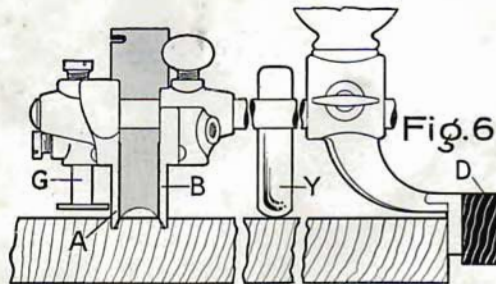

Fig. 6
Fig. 6—CENTER BEADING—Attach Cam Rest (Y) to either Arm between Sliding Section and Fence to steady Plane. Attach Fence as in Fig. 4, and Plane will cut bead five inches from edge of stock. Set as in Fig. 6 and it will cut bead eight inches from edge. Gauge (G) is used as in ordinary beading. No Spurs required.